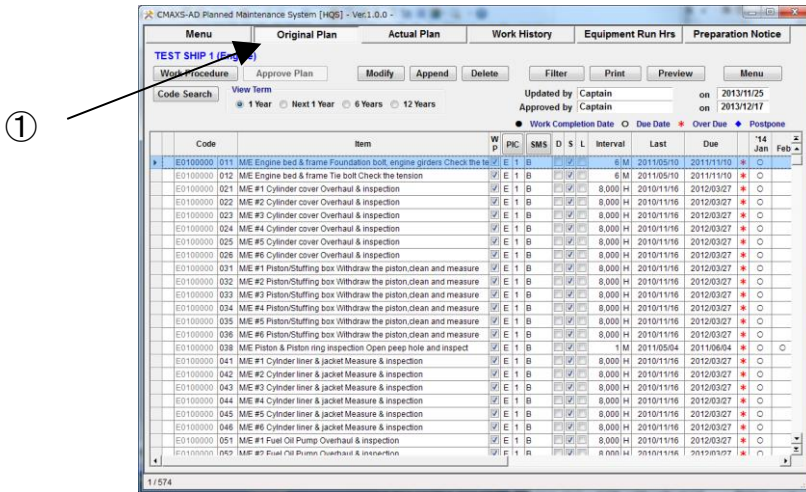

Fig.11-1 Original Plan Screen
(1) On the "Original Plan Screen"(Fig.11-1) is displayed.
(2) If you want to modify the maintenance item data.